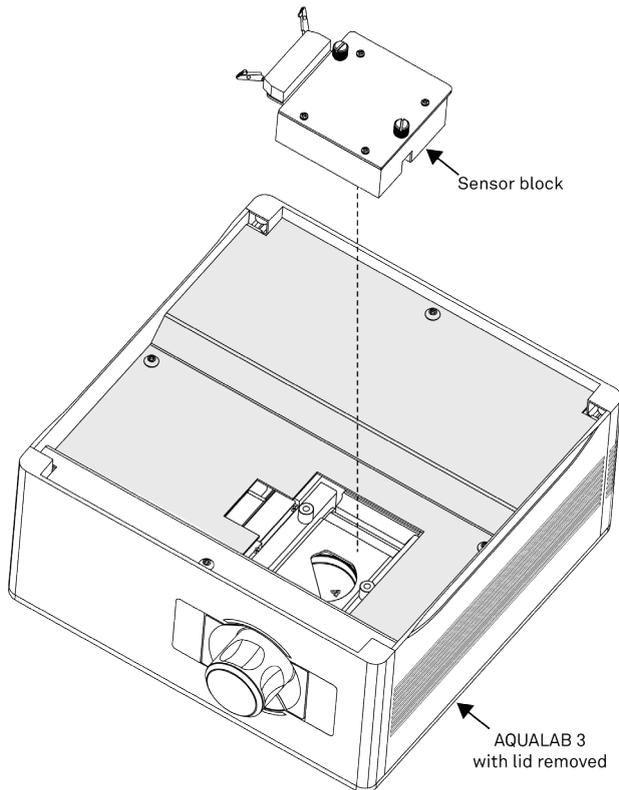

Figure 98 Remove sensor block
6. Loosen the thumbscrews and lift sensor block to remove (Figure 98).